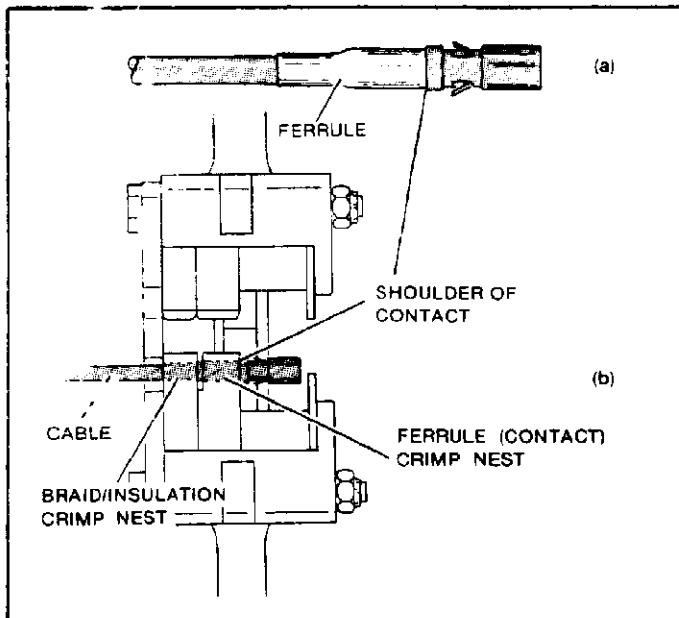

Figure 7
- Slide ferrule over braid until ferrule bottoms against shoulder on contact. Portholes are covered by ferrule. See Figure 7(a).
- (b) Place contact and ferrule assembly in ferrule crimp nest so that shoulder of contact butts against end of ferrule (contact) crimp nest. See Figure 7(b).